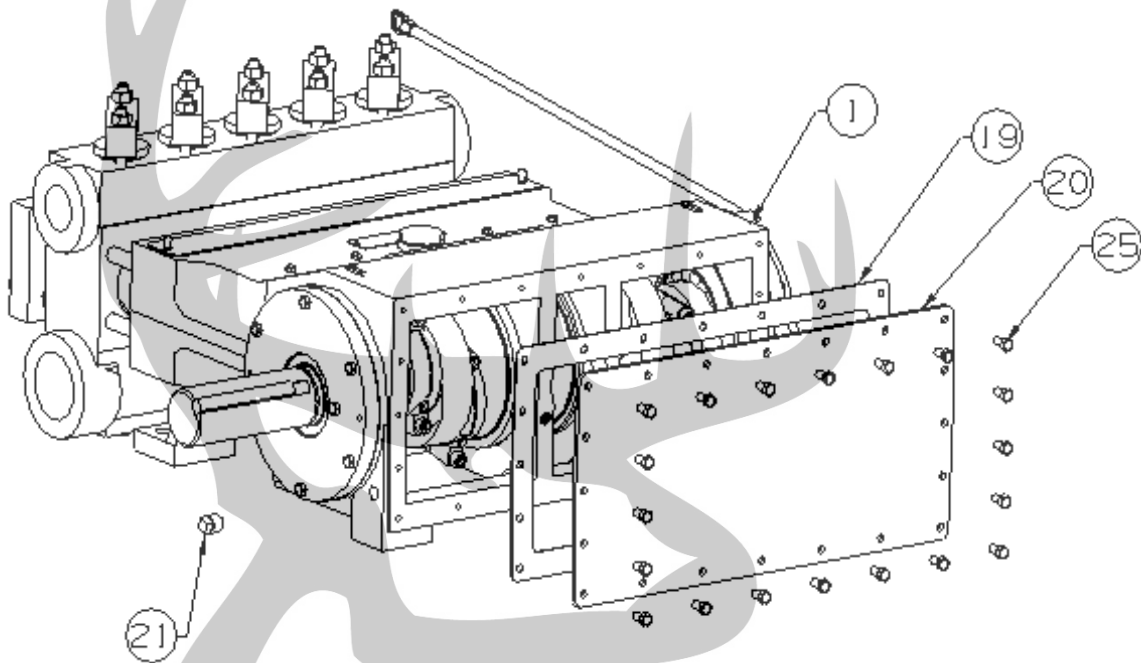

Figure 7: Q12 Power End Assembly
1. Remove drain plug (21) from bottom of pump and allow all oil to drain from power frame sump. See Figure 7.
3. Remove the rear cover bolts (25) and the rear cover from the pump frame.